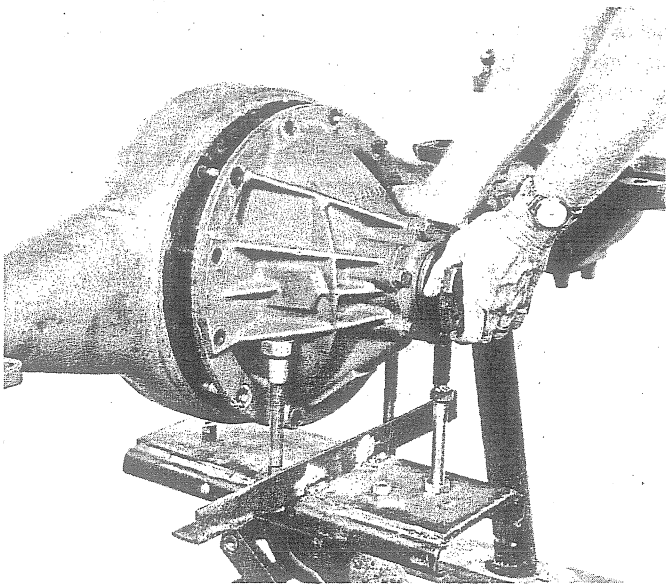

Fig. 90 - Removing or Installing Differential Assembly
- b. If the axle housing is mounted on a stand with the differential in a normal position (such as when mounted on the unit), attach a suitable pad to the differential assembly and to a rolling floor jack, remove retaining nuts and roll differential assembly straight out from the axle, as shown in Fig. 90.
housing as shown in Fig. 90. Secure the differential assembly to the axle housing with retaining nuts tightened to 50-55 ft.-lbs. torque.